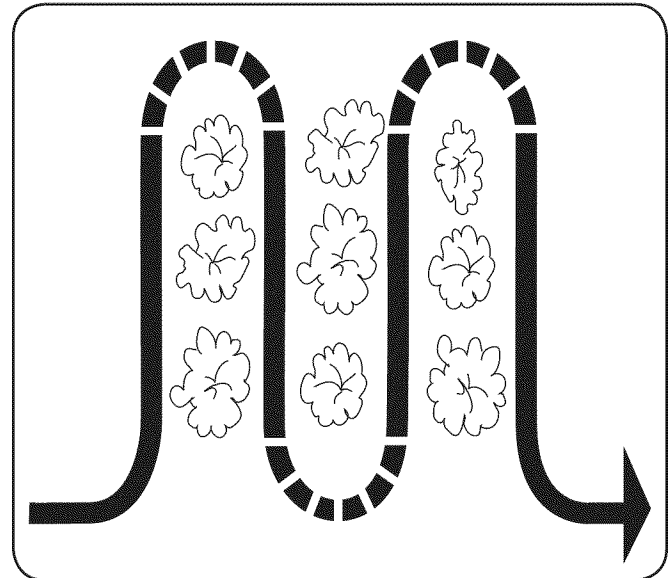

Figure 5-4
- When cultivating (breaking up the surface soil around the plants to destroy weeds, see Fig. 5-4), adjust the tines to dig only 1" to 2" deep. Using the shallow tilling depth helps prevent injury to the plants whose roots often grow close to the surface. If needed, lift up on the handlebars slightly to prevent the tines from digging too deeply. (Cultivating on a regular basis not only eliminates weeds, it also loosens and aerates the soil for better moisture absorption and faster plant growth.) Watering the garden area a few days prior to tilling will make tilling easier, as will letting the newly worked soil set for a day or two before making a final, deep tilling pass.